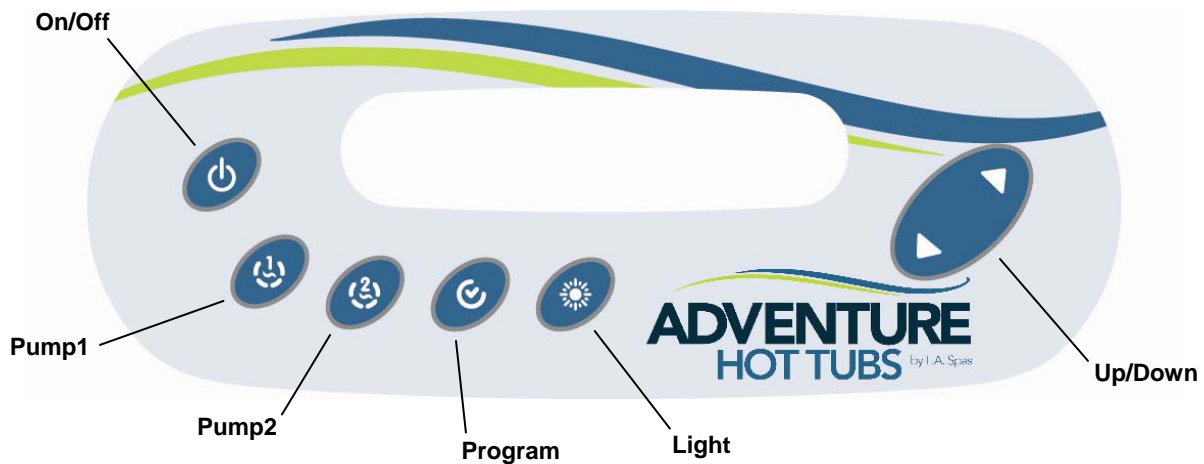

Fig.3
5. Close and cap the hose bib located in the equipment compartment (Fig.3). This is used for draining the spa.